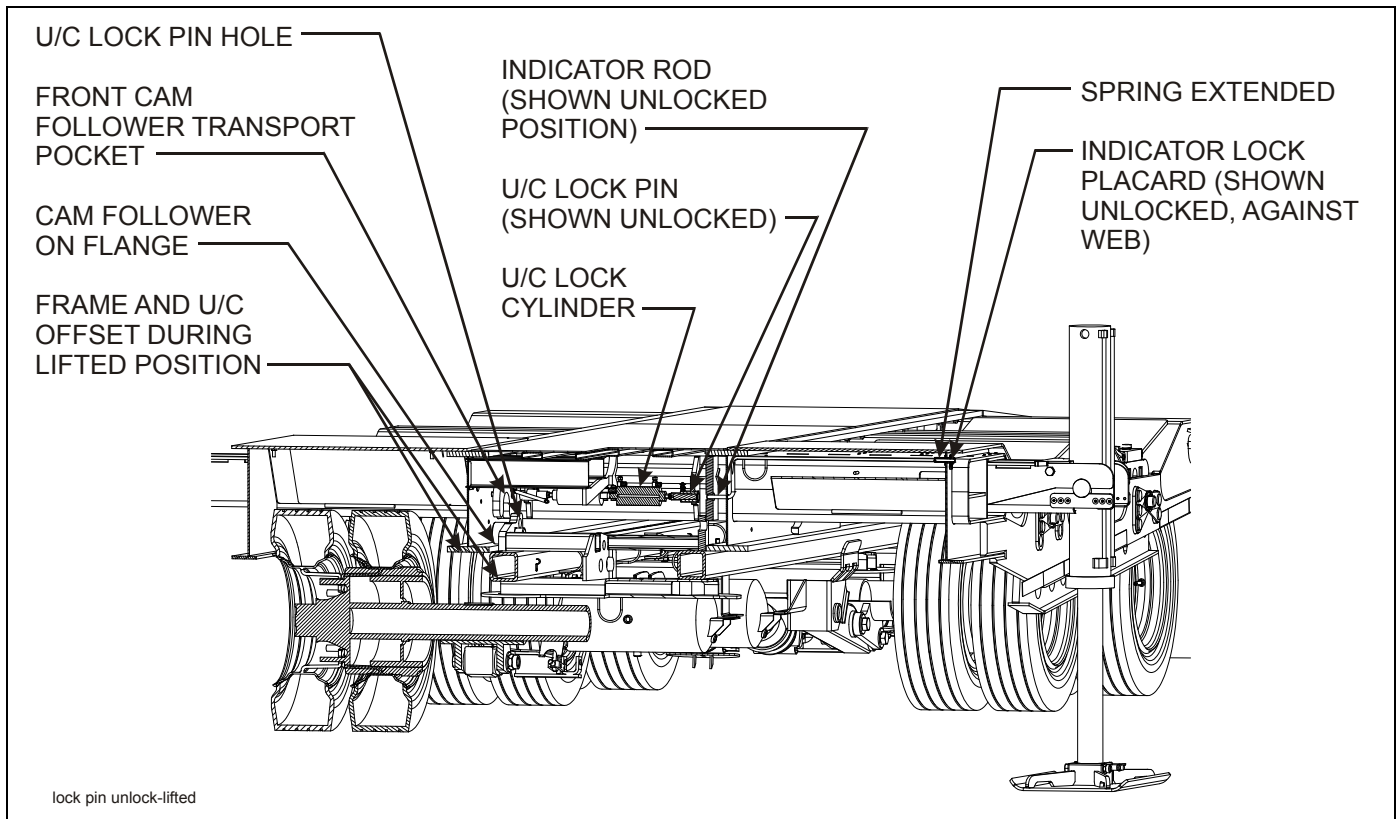

Figure 3-14: U/C Lock Pin in Unlocked and Lifted Position
3. Outrigger lift-leg cylinder may now be extended, lifting the frame approximately 4" before the undercarriage cam-followers contact top surface of frame flanges. Continuing to lift the trailer, the tires will leave the ground allowing undercarriage to be winched forward (See Figure 3-14.)